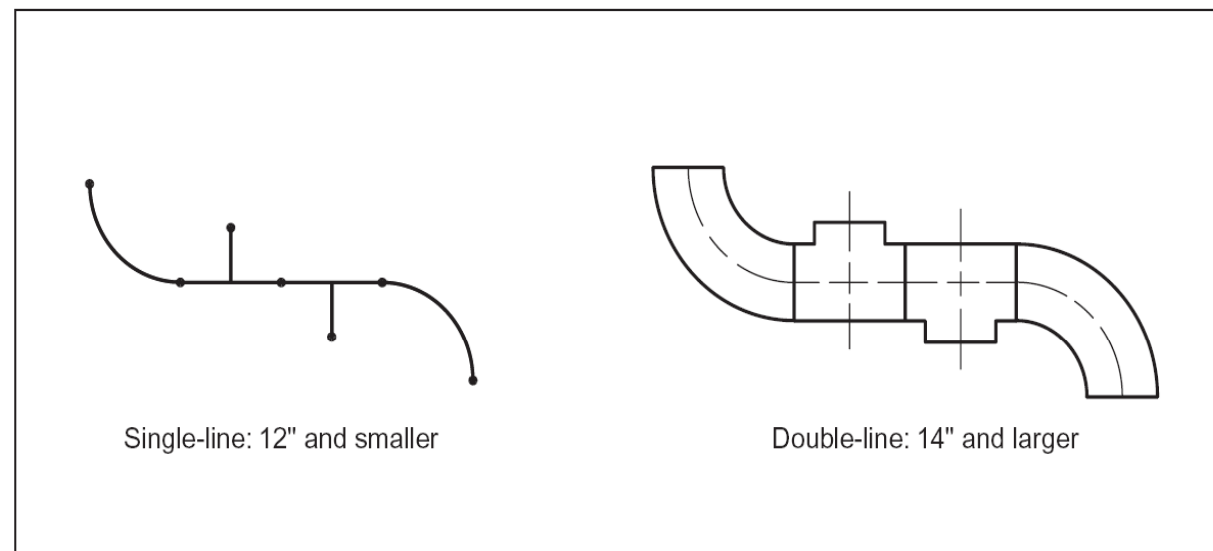

FIGURE 3.51 Fitting make-up.
**Welding one fitting directly to another is called fitting make-up.** Single-line and double-line representations of fitting make-up are shown in Figure 3.51.